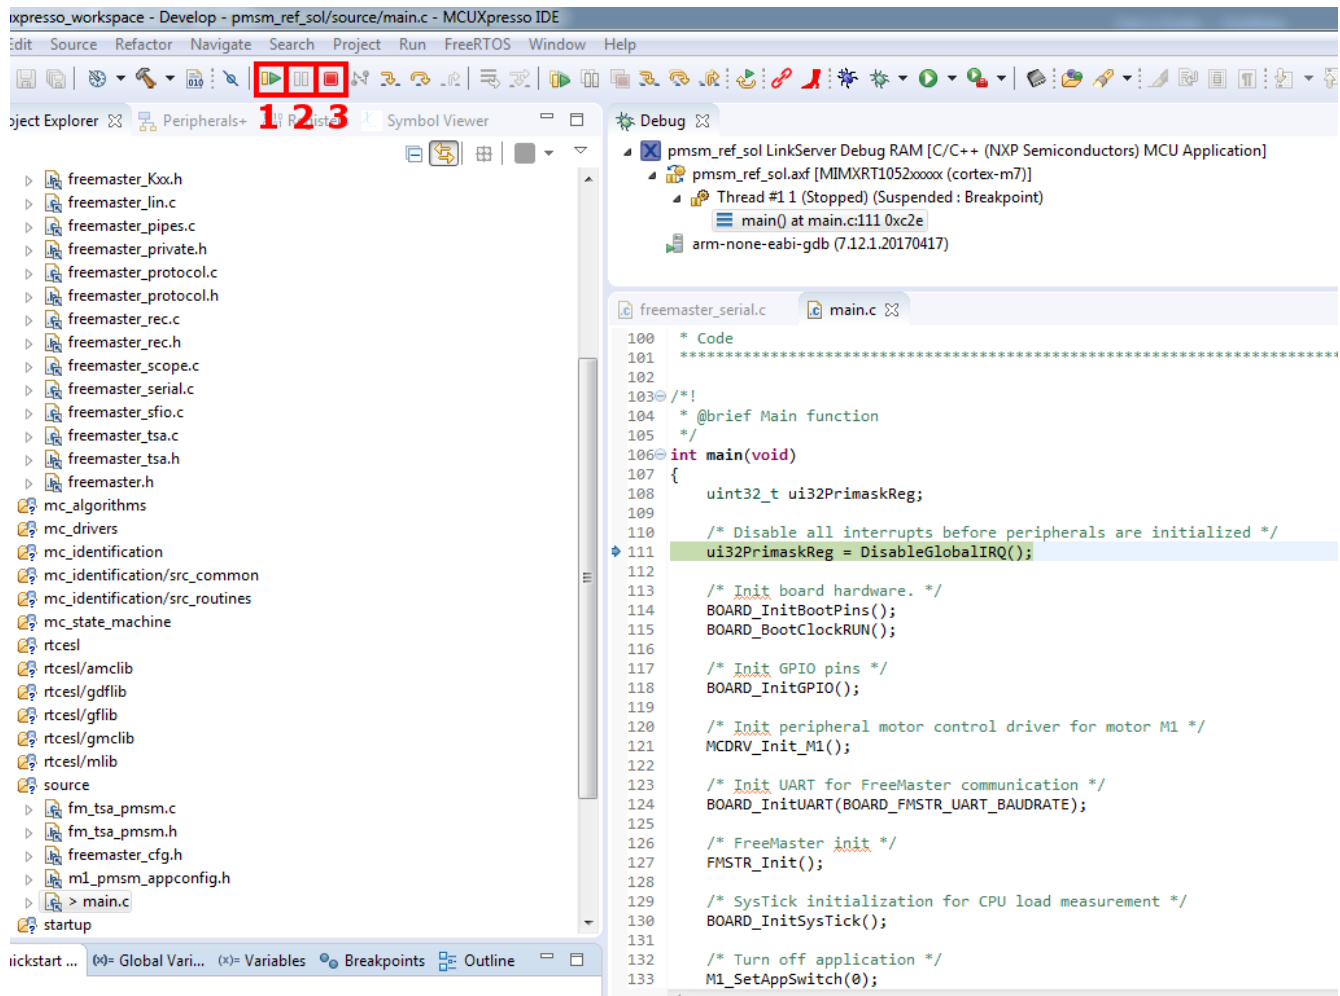

Figure 13. MCUXpresso debug workspace
- To run the application, press the “Resume” button (Point 1 in Figure 13).
- To pause the running application, press the “Suspend” button (Point 2 in Figure 13).
- To STOP debugging, press the “Terminate” button (Point 3 in Figure 13).
5. If debugging for a second time, you do not have to create the debug configuration again. Just click the little arrow in the “Debug Configuration” button (Point 3 in Figure 13) and select a debug configuration.